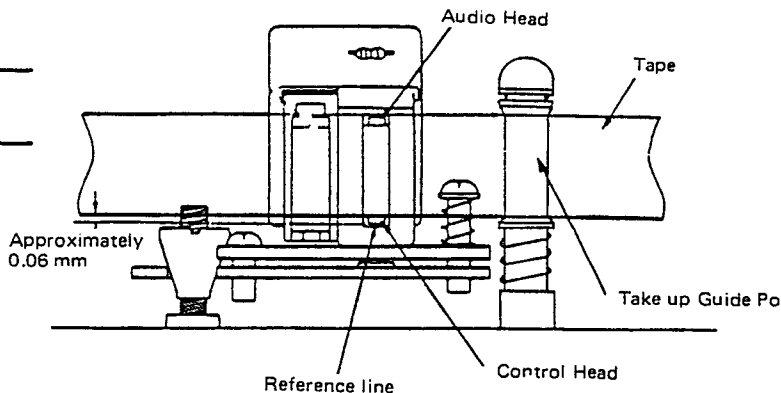

Fig. 33 Audio/Control head height
3. Carefully and evenly adjust screws ②, ③ and nut ① to align the audio/control head height with the tape as shown in Fig. 33.